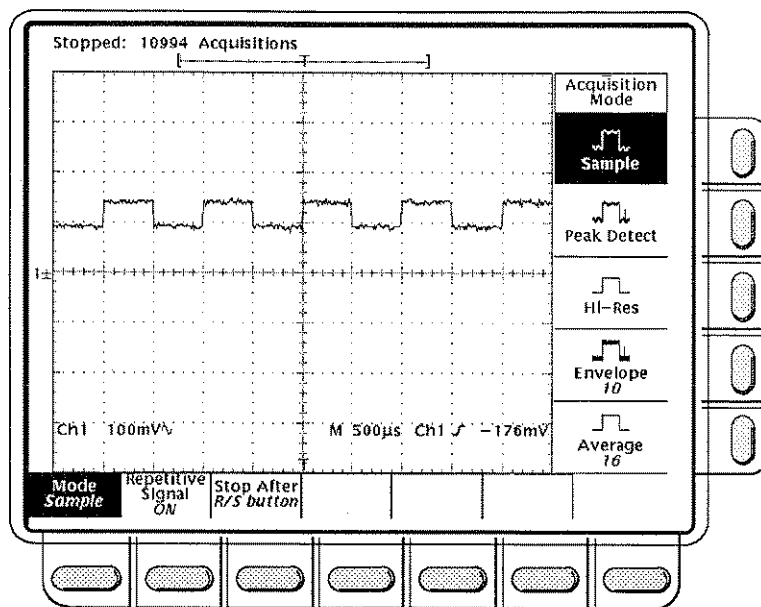

Figure 3-1: Acquire Menu
- Step 1:** Press the **ACQUIRE MENU** button (**SHIFT** and then **RUN/STOP**) to bring up the Acquire menu (Figure 3-1).